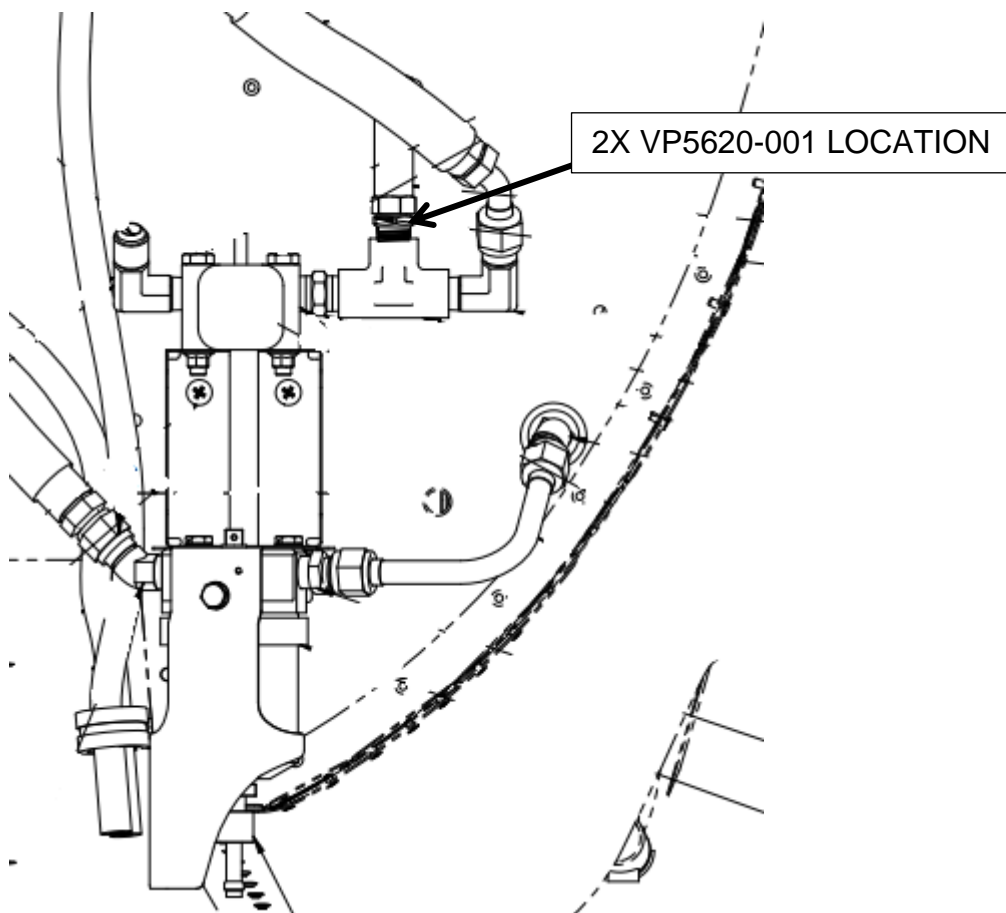

Figure 3 - Fuel Pressure Snubber
16. Install 2X VP5620-001 between AN912-1J and fuel pressure transducer. Torque to 2-3 turns from finger tight. See Figure 3.